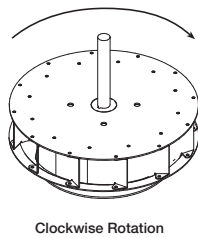

Figure 8
- Check wheel rotation (viewing from the shaft side) by momentarily energizing the unit. Rotation should be clockwise as shown in Figure 8 and correspond to rotation decal on the unit.